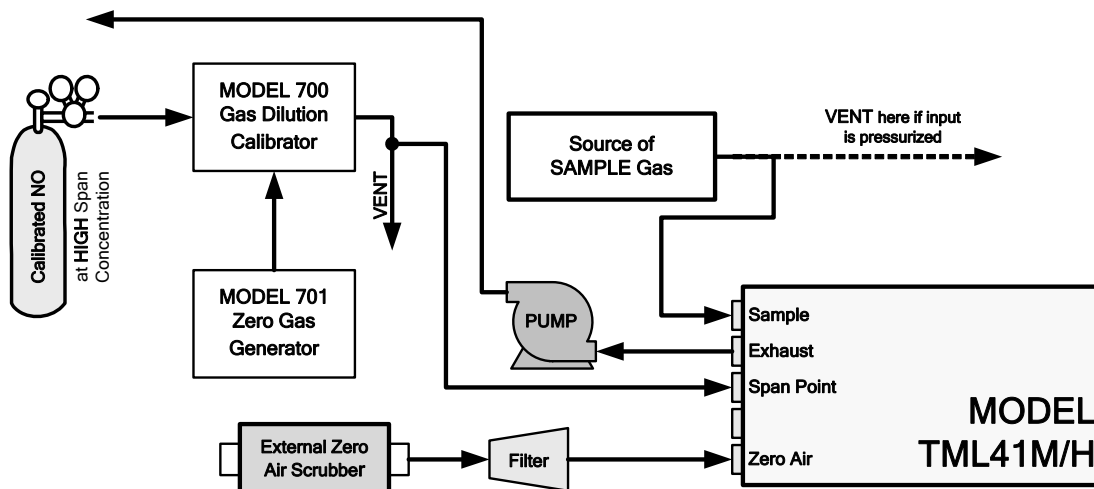
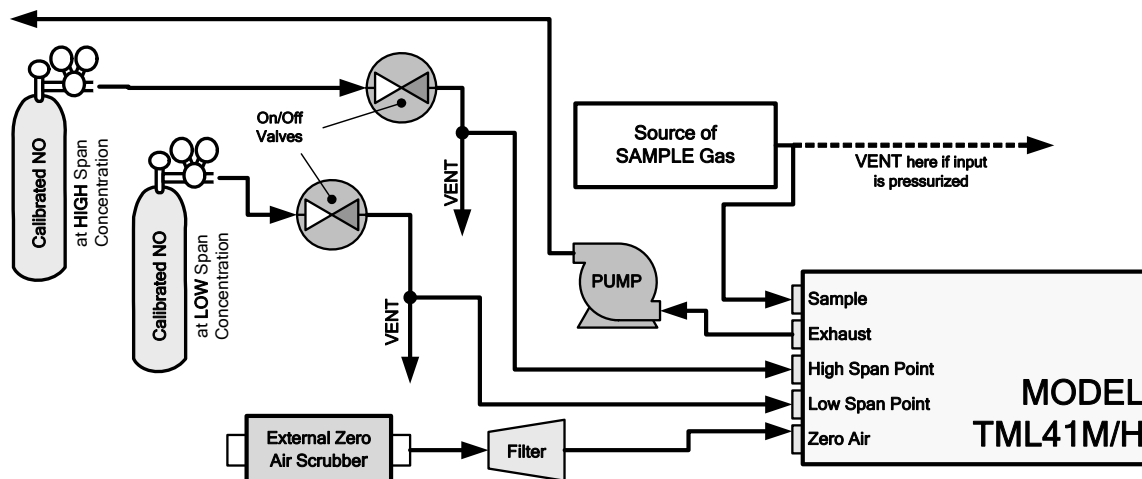

Figure 3-11: Pneumatic Connections–With Zero/Span Valve Option (50)
Figure 3-12: Pneumatic Connections—With 2-Span point Option (52) –Using Bottled Span Gas
If your analyzer is equipped with either the zero/span valve option (50) or the 2-span point valve option (52), the pneumatic connections should be made as shown in Figure 3-11: Pneumatic Connections–With Zero/Span Valve Option (50) & Figure 3-12: Pneumatic Connections–With 2-Span point Option (52) –Using Bottled Span Gas: